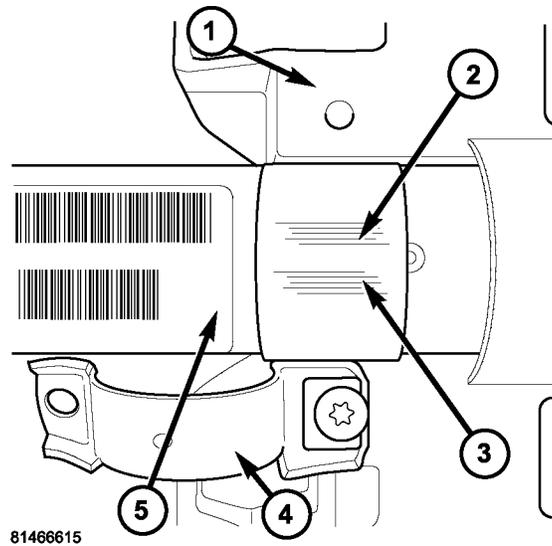

Fig. 3 APPLYING TAPE TO STEERING COLUMN
- e. Apply the tape crosswise on the column jacket tube, aligning it with the bracket holes on the upper mounting bracket (Fig. 3).